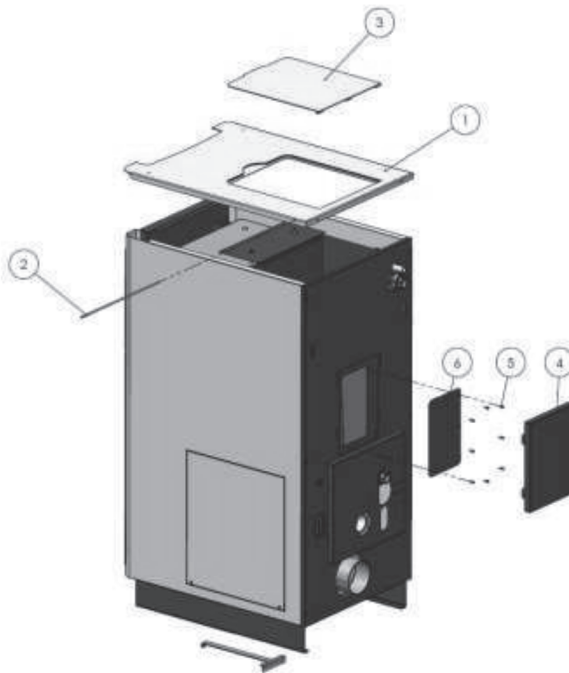

Fig. 1.
- Cover of the storage compartment 6 (Fig. 1) now fit in additional storage and tighten screws 5